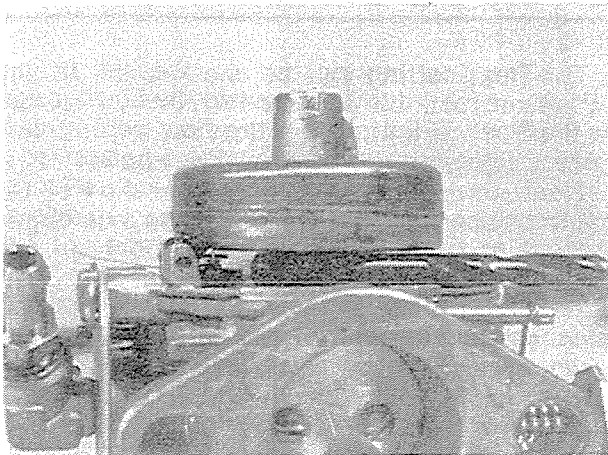

Figure 4
The float setting can be checked by placing 1/4" (6 mm) drill bit between the bowl gasket and the float. (Figure 4). If the float setting is incorrect, light finger pressure should be applied to the float arm to correct. Check the operation of the float to be sure that the hinge and the axle do not bind and that the float moves straight up and down.
7. Install the float and float axle on the support brackets of the throttle body. With the throttle body horizontal and float side up, check the operation of the float to be sure that the hinge and axle do not bind and that the float moves. Adjust to acquire 1/4" (6 mm) clearance between the float and the carburetor body. (See Figure 4).